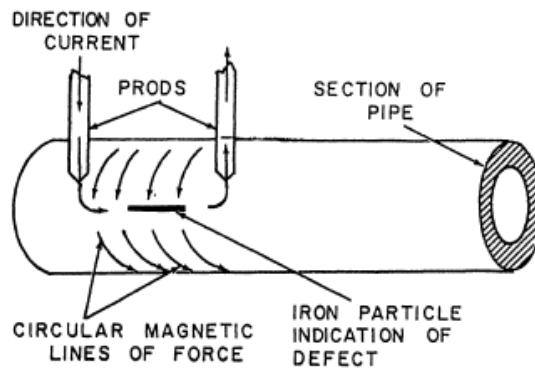
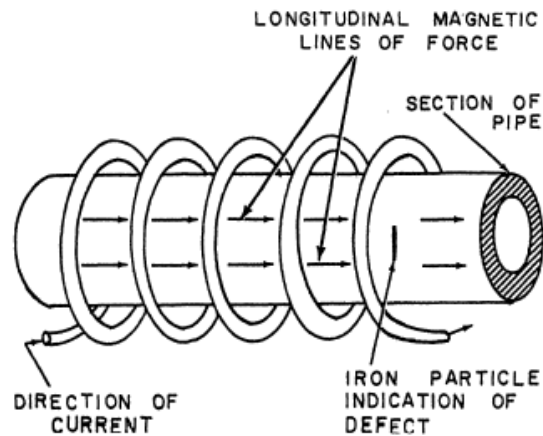

Figure 7-58.—Circular magnetization (prod method).
Figure 7-59.—Longitudinal magnetization (coil method).
You can magnetize the test piece by either having an electric current pass through it, as shown in figure 7-58, or by having an electric current pass through a coil of wire that surrounds the test piece, as shown in figure 7-59. When an electric current flows in a straight line from one contact point to the other, magnetic lines of force are in a circular direction, as shown in figure 7-58. When the current flow is through a coil around the test piece, as shown in figure 7-59, the magnetic lines of force are longitudinal through the test piece.
When a defect is to show up as a disturbance in the pattern of the iron particles, the direction of the magnetic field must be at right angles to the major axis of the defect. A magnetic field having the necessary direction is established when the current flow is parallel to the major axis of the defect. Since the orientation of the defect is unknown, different current directions must be used during the test. As shown in figure 7-58, circular magnetism is induced in the test piece so you can inspect the piece for lengthwise cracks, while longitudinal magnetism, as shown in figure 7-59, is induced so you can inspect the piece for transverse cracks. In general, magnetic particle inspection is satisfactory for detecting surface cracks and subsurface cracks that are not more than 1/4 inch below the surface.
You can use the unit with alternating or direct current in either of two ways: (1) with prods attached to the flexible cable and used as contacts for the current to pass into and out of a portion of the test piece, setting up circular magnetization in the area between the prods contact points, as shown in figure 7-58; or (2) with the flexible cable wrapped around the work to form a coil that induces longitudinal magnetism in the part of the workpiece that is surrounded by the coiled cable (figure 7-59).